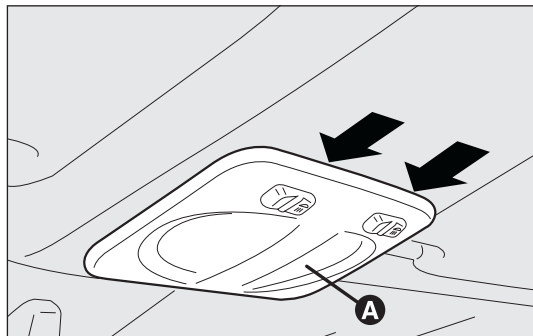
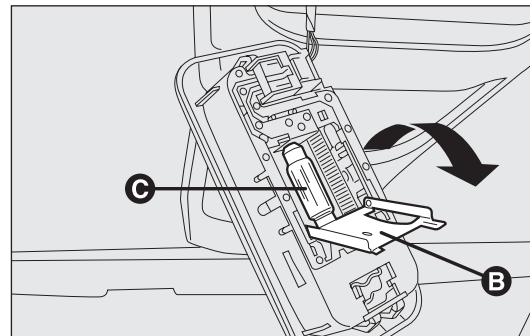

fig. 152
fig. 153
- act on the points shown by the arrows and remove light A-fig. 152;
- open the protective flap B-fig 153;
- replace bulbs C-fig. 153 by releasing them from the side contacts and making sure that new bulbs are correctly locked between these contacts;
- close the flap B-fig. 153 and fix the courtesy light A-fig. 152 in its housing, making sure it is locked correctly.